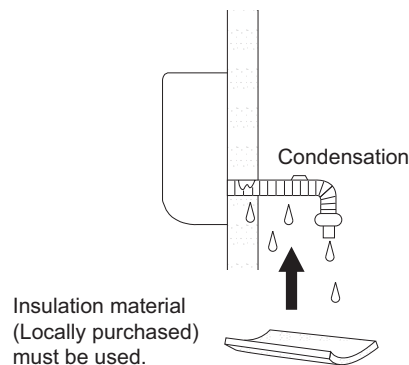

Fig. 2-265
- c) If the drain hose will run in the room, insulate the hose with insulation* so that chilled condensation will not damage furniture or floors. (Fig. 2-265)